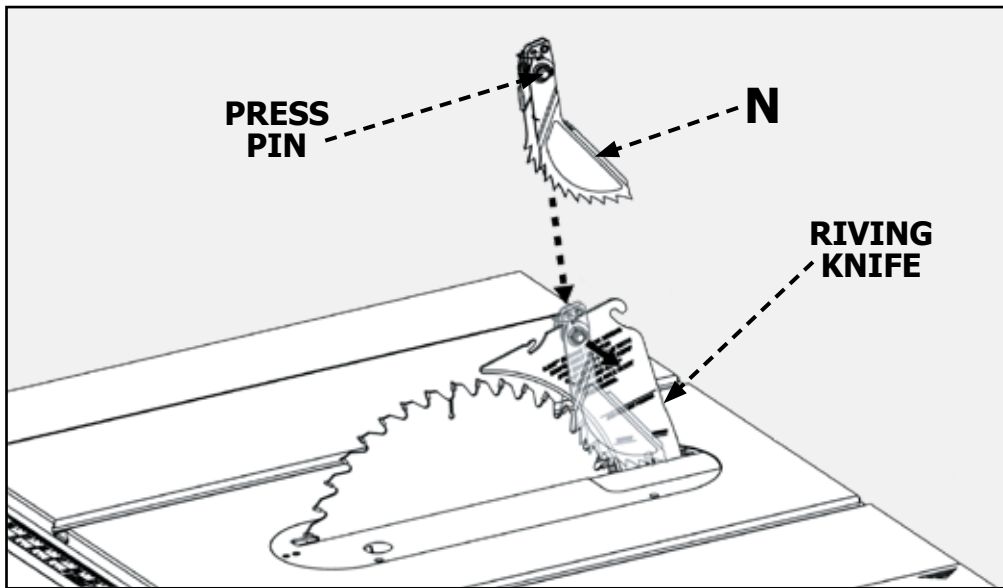

FIGURE 19
1. Refer to Figure 19 and locate the anti-kickback pawls mounting slot (A) in the middle of the top edge of the riving knife.
2. Slide slot in the middle of the anti-kickback pawls assembly along the top of the riving knife until the stem (B) locates the center slot on the riving knife.
3. Depress the stem on the anti-kickback pawls assembly (B) to allow the assembly to drop into the slot. Push down on the anti-kickback pawls assembly until it snaps into place and locks. Release stem. **NOTE:** Pull up on the anti-kickback pawls to make sure it is locked in place.